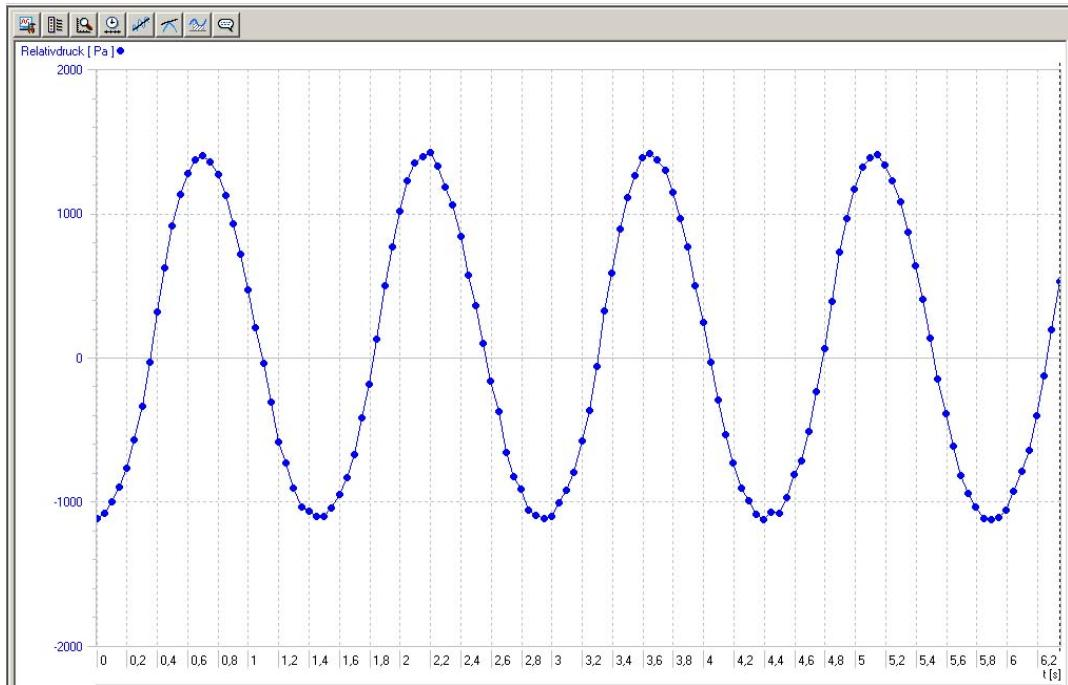

Fig. 2 Trace of pressure in the Wilke-type Stirling engine
- Evaluate the curve resulting from the measurements (fig. 2).